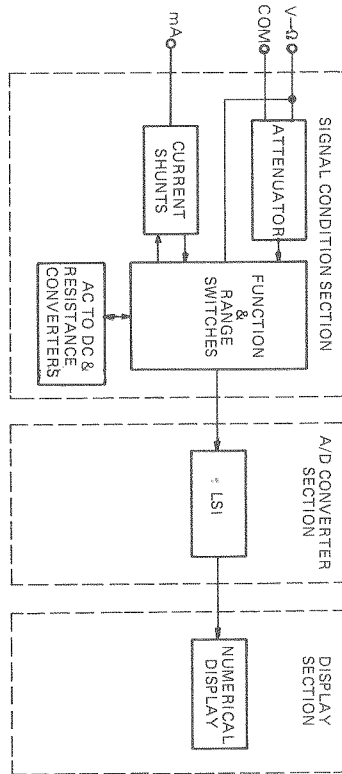

FIGURE 5-1. BASIC SYSTEM DIAGRAM
5.1.1 The basic system block diagram for the 461 is shown in Figure 5-1.